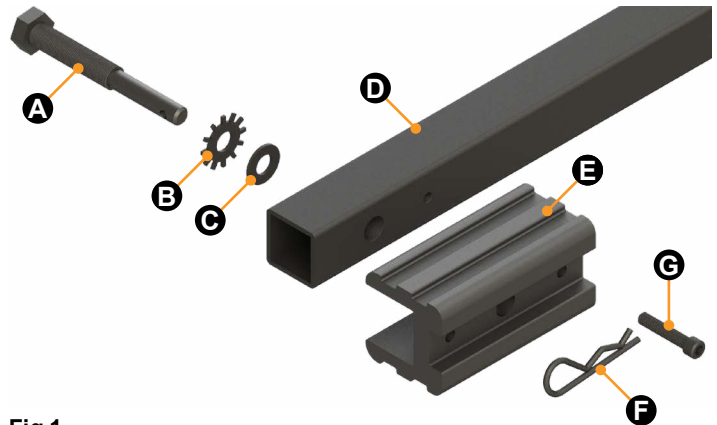

Fig.1
2. Place a star washer (**Fig.1B**) and then a flat washer (**Fig. 1C**) onto the threaded NoMotion hitch pin (**Fig. 1A**), and insert the pin through the hitch receiver and into the larger threaded hole of the shank (**Fig.1**). The flat washer will protect the paint on the hitch receiver.